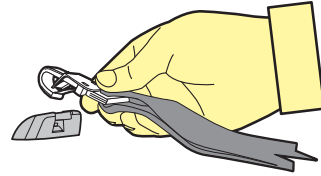

Figure 7
- Step 5:** Hook the attachment clip to the anchor fitting. Ensure there are no twists in the top tether strap (refer Figure 7).